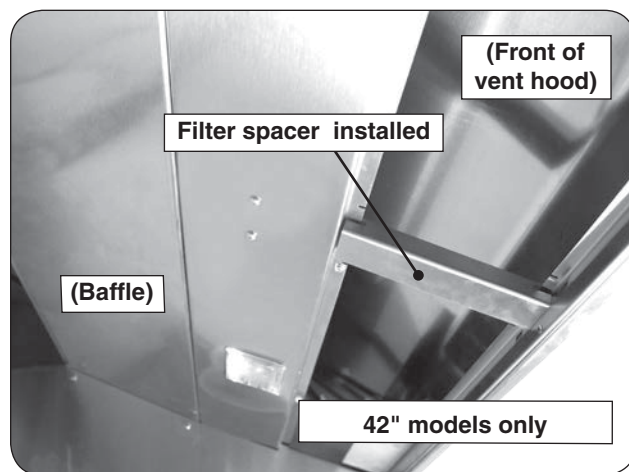

Fig. 20-3 Install filter spacer (if applicable)
1. Install the filter spacer (if applicable, 42" models only). See Fig. 20-3. Repeat for other side.